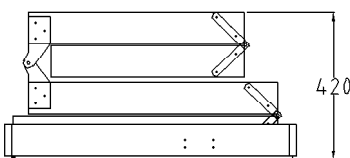

fig. 2
5. The area for the opening must be clear of wiring, plumbing and structural members such as beams and trusses with a minimum clear height above the ceiling of 420mm (figure 2).